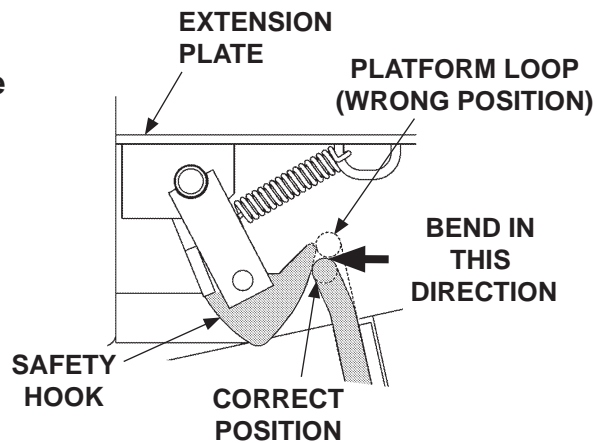

FIG. 20-2
2. Adjust by bending the platform loop as shown in **FIG. 20-2**.